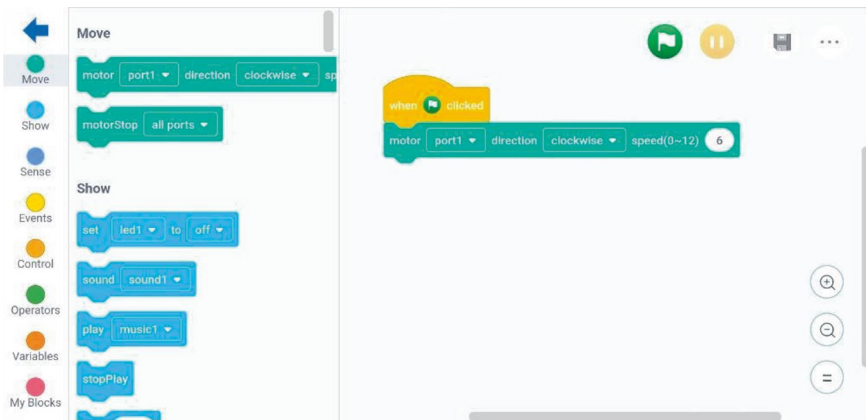

Figure 3-2. Block code to make the crab move
The programming is done in a block coding Scratch interface which makes it very easy for kids to learn coding. Block coding is one of the best ways for kids to have fun creating programs without having to learn coding syntax. You can see what the block coding interface looks like in Figure 3-2. The very left panel is a navigation bar that helps sort all the coding blocks by different categories. The coding blocks are in the secondmost left panel. You use them by scrolling through them, and you can drag and drop them on the left, which is the script area. The script area is where all your executable code goes. It is okay to have unused blocks in the script area. The code only gets executed if it is connected to the green flag or another block that is connected to it.
To make the crab move, drag the first box called “motor [port1] direction [clockwise] speed(0-12) (6)” into the script area. Click the green flag to make the crab move, and to pause it, click the yellow pause button. You can see an example of this in Figure 3-2.